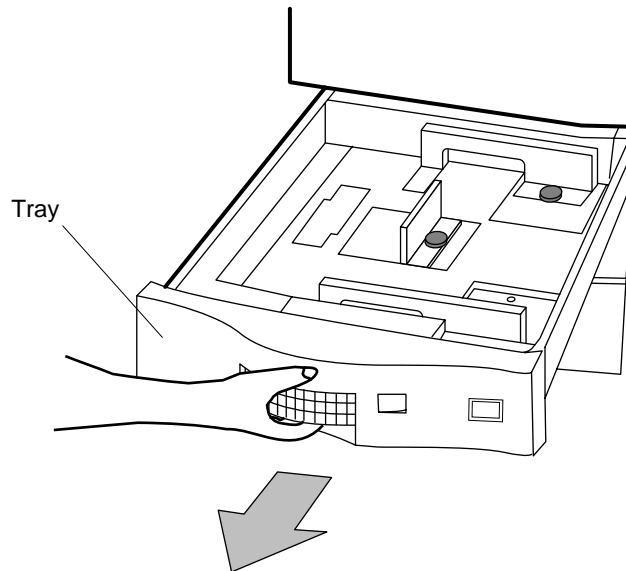

Figure 2-60 Pulling out the Tray
1. Pull the upper paper tray out until it stops. See Figure 2-60.